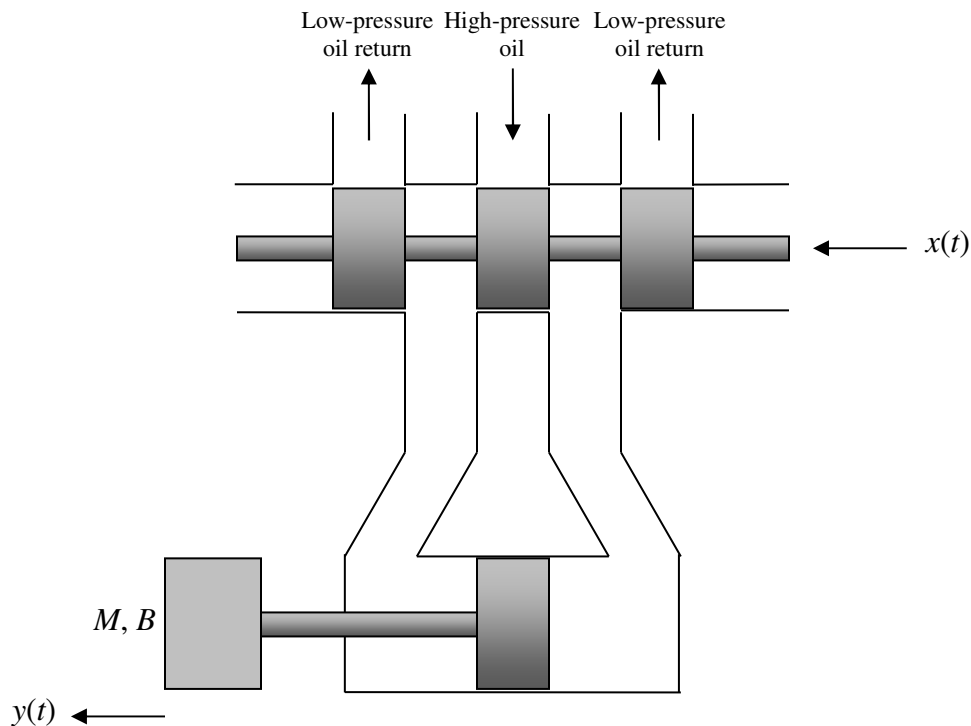

Figure 4.1: A hydraulic actuator
- Figure 4.1 shows the operation of a hydraulic actuator.